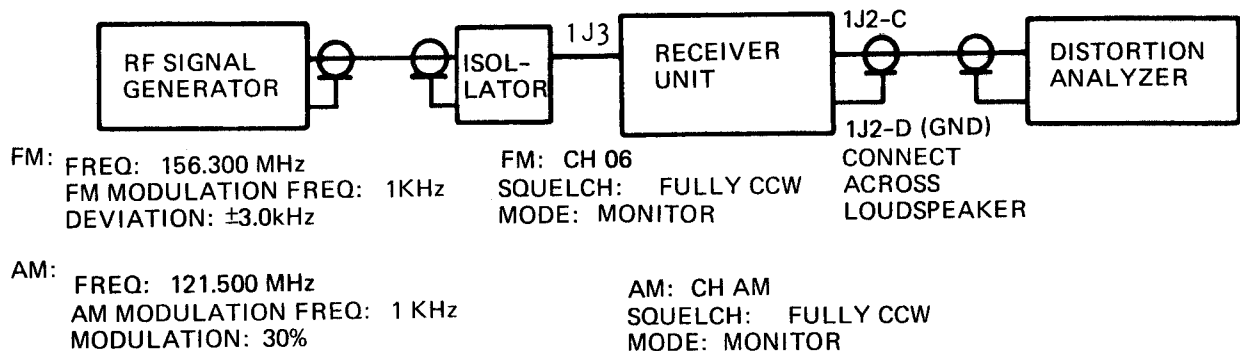

Figure 4-2. Sensitivity Check Test Setup
- (a) Connect test equipment to receiver unit, as shown in figure 4-2.
(a) Connect test equipment to receiver unit as shown in figure 4-2 and set receiver controls as specified in paragraph 4.4.3.c.
- (a) Connect test equipment to receiver unit as shown in figure 4-2.